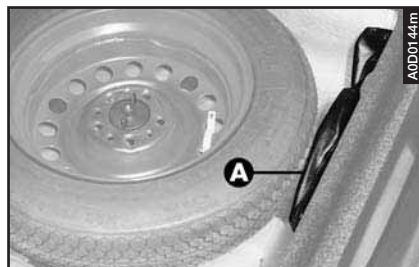

fig. 3
- Take the tool bag (**A-fig. 3**) and bring it near to the wheel to be changed.
– Take the tool bag (**A-fig. 3**) and the spare wheel and bring them near to the wheel to be changed.